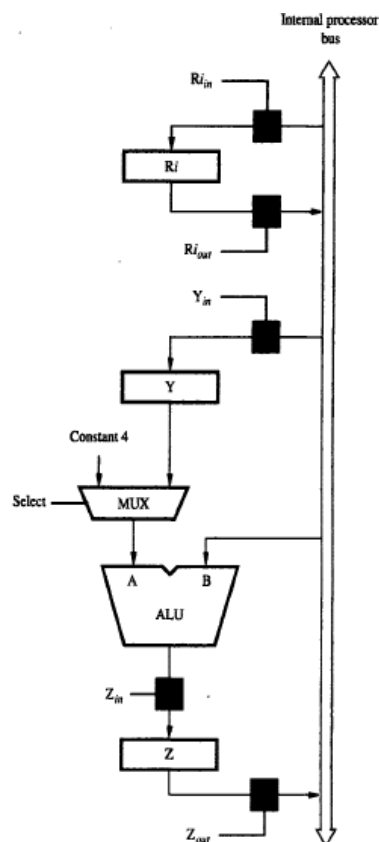

Figure 7.2 Input and output gating for the registers in Figure 7.1.
- 1) Enable the output of registers R1 by setting $R1_{out}$ to 1 (Figure 7.2).